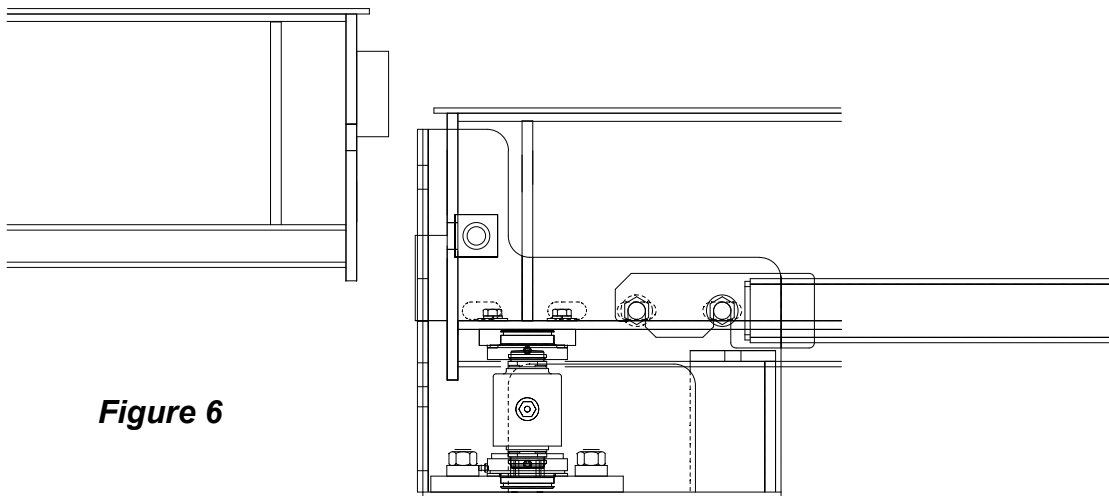

Figure 6
6. Once identified, prepare to lift. **BEFORE YOU LIFT!** Safely rig the scale module using the angled lifting receivers on the sides of the modules and the provided lifting hooks. **DO NOT LIFT BY SUBFRAME or RUBRAIL**, the module and sub-frames are secured together with shipping brackets. Place the left end module next to the center module such that the load blocks of the left end module are bearing down on the load blocks of the center module. Be sure the two modules are square with each other and aligned on the center line of the scale. *See Figure 6 (page 15)*